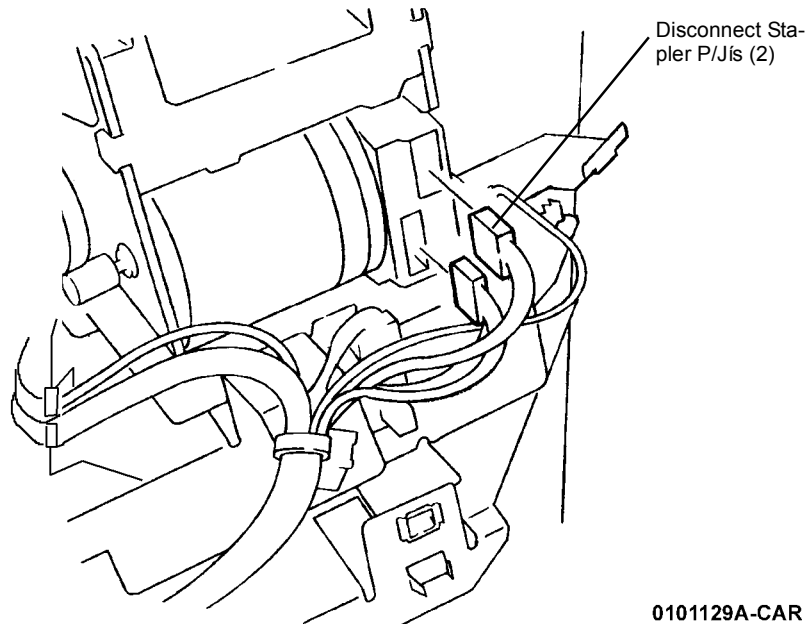

Figure 1 Disconnecting P/J's
2. Disconnect Stapler P/J's (2) (Figure 1).